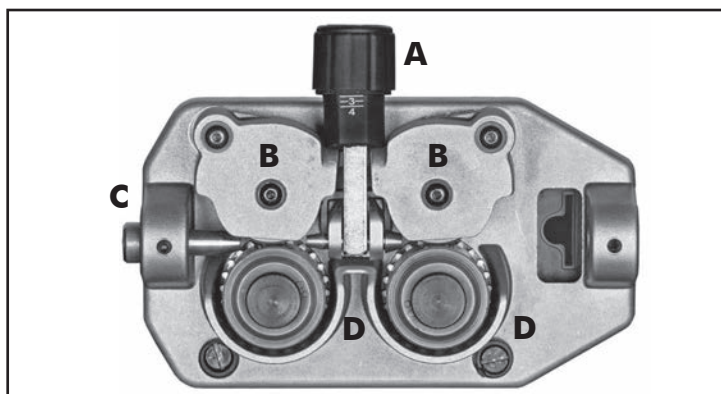

Figure 2 - Wire Feeding Motor
- Loosen and lower the plastic knob (A) (Figure 2). Open the pressure arm (B) of the feeder. (Extract the wire from the torch liner if some wire is left into the torch).
- When the wire is disconnected, grasp it with pliers so that it cannot exit from the spool. If necessary, straighten it before inserting it in the wire input guide (C). Insert the wire on the lower roll (D) and in the torch liner.